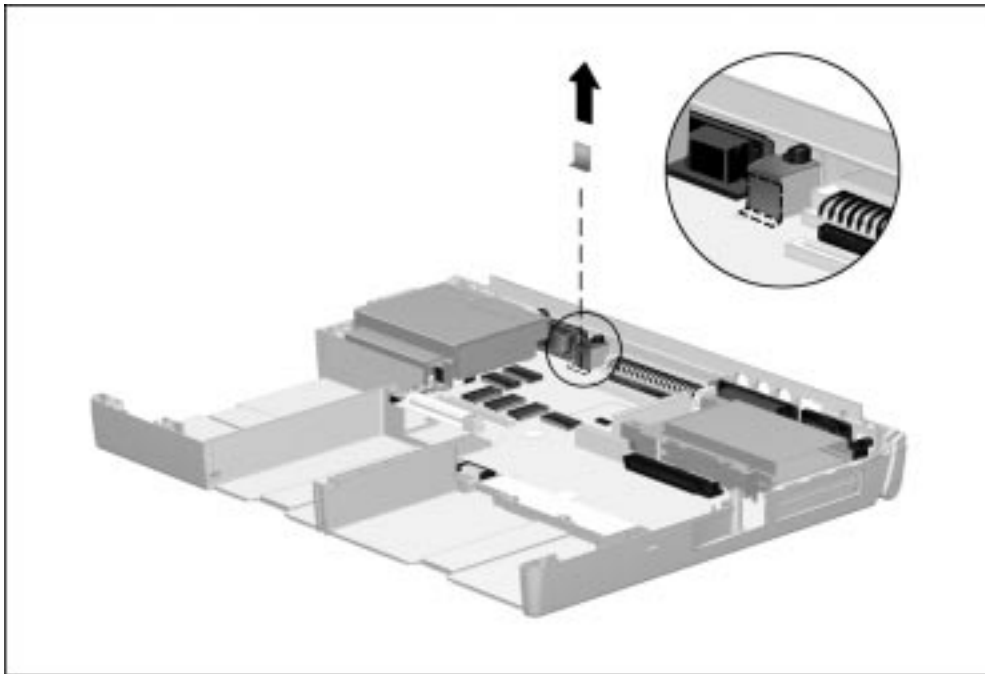

Figure 5-76. Removing the Keyboard Connector Insulator
15. The keyboard connector insulator is attached to the back of the keyboard connector (Figure 5-76). If a new insulator must be installed, remove the old insulator, remove the tape backing from the new insulator, and attach the new insulator to the back of the keyboard connector.